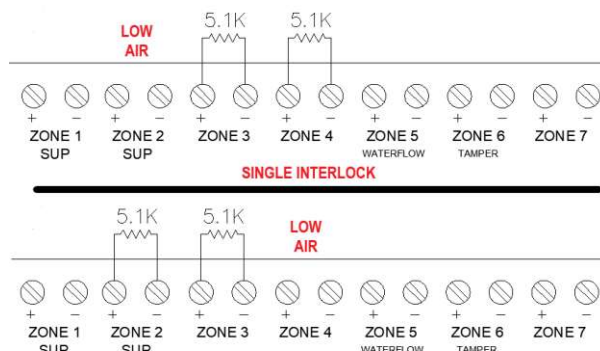

Figure 4
5.1. POTTER MODEL 4410G3 CONVENTIONAL CONTROL PANEL. Refer to Figure 4,